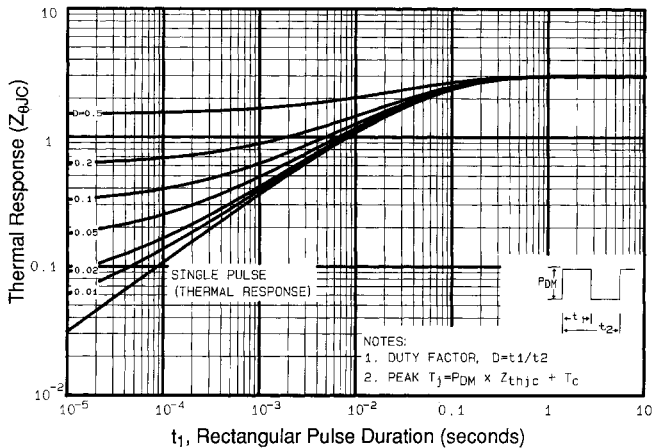

Fig 11. Maximum Effective Transient Thermal Impedance, Junction-to-Case
① Repetitive rating; pulse width limited by max. junction temperature (See Figure 11)
③ $I_{SD} \leq 5.2A, di/dt \leq 95A/\mu\text{s}, V_{DD} \leq V_{(BR)DSS}, T_J \leq 150^\circ\text{C}$
② $V_{DD}=50V$, starting $T_J=25^\circ\text{C}, L=14\text{mH}$